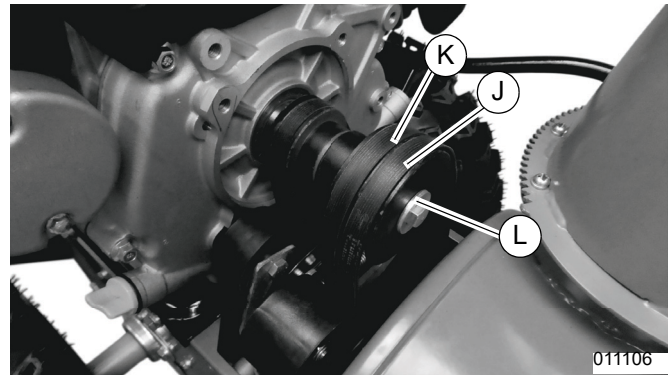

Figure 4-11. Engine Drive Pulleys
8. See Figure 4-11. Roll front auger belt (J) off front of engine drive pulley (K), and rear auger belt (L) off the back of engine drive pulley.